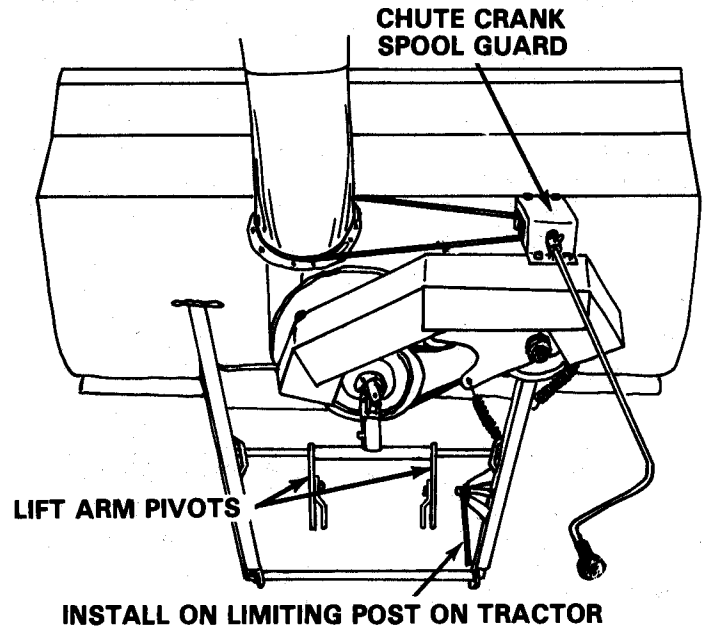

FIGURE 20
14. Attach limiting arm to limiting post with washer and hairpin cotter. See Figure 20.